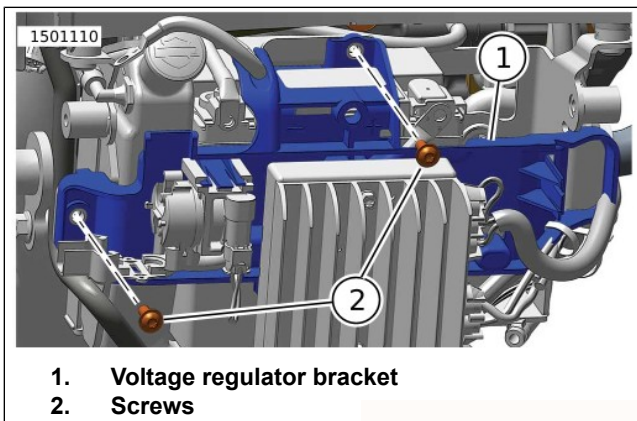

Figure 69. Voltage Regulator Bracket Screws
5. Figure 69 Remove voltage regulator bracket screws (2).
2. Figure 69 Position voltage regulator bracket (1).
3. Install voltage regulator bracket screws (3). Tighten.